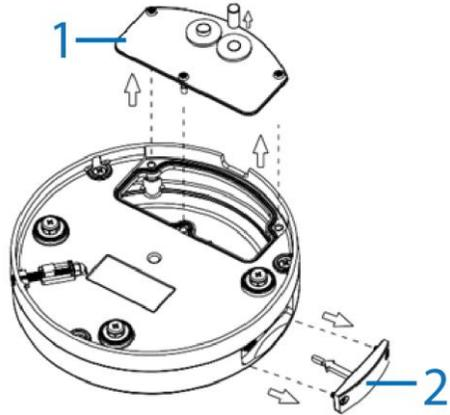

Figure 6
10. Use the screwdriver to remove the three screws on the camera rear cap cover (1) (Figure 6).
12. Hold the rear cap (1) (Figure 6) up to the camera and align the three holes on the rear cap with the three holes on the camera.
- a. Use the screwdriver to remove the two screws on the SD card slot cover (2) (Figure 6) and then insert a micro-SD card.